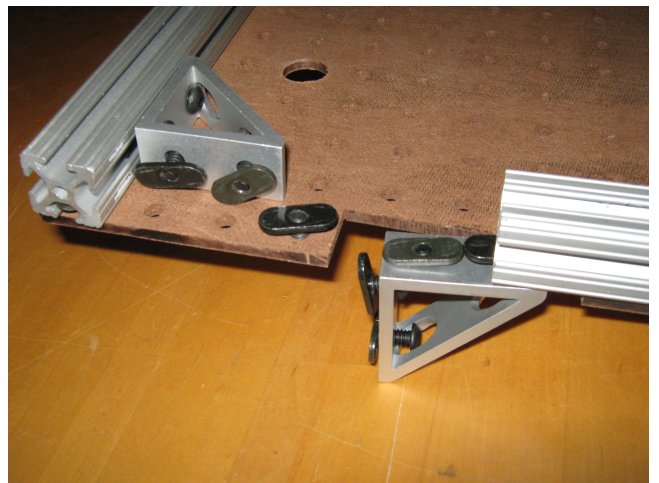

Figure 6: Slide the 13" 80/20 onto the sides of the pegboard, along with the angle brackets that will later attach to the rollbar.
5. Slide the two 13'' beams of 80/20 onto the two sides of the pegboard. As you reach the notches on the sides, place an angle bracket there and slide the 80/20 onto it as well. Be sure to orient the angle bracket so that its hypotenuse is facing the back of the robot, towards you, as shown in Figure 6. As you reach the angle brackets attached to the 15'' beam, slide the side beams onto it as well.